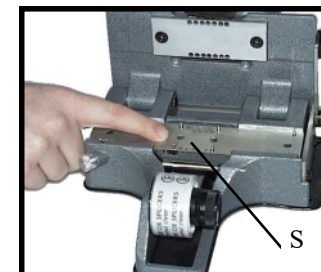
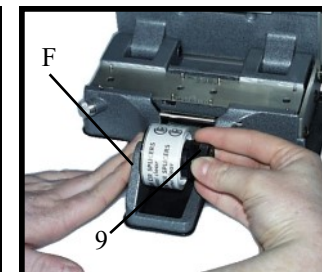

Fig.1
Fig.2
1) that the adhesive tape (S fig 1) , three or four superimposed layers, is applied to the matrix. It ensures that the little rectangles cut off by the perforators remain under the matrix and do not turn up sticking to the film.
2) that the adhesive tape is well centered in respect to the central pins (S fig 1) and pushed tight to flange (F fig 2). Tapes of different widths may be centered by removing or adding flanges, available in various thickness.
3) that the adhesive tape unroll tension is well regulated, turning knob (9 fig 2)